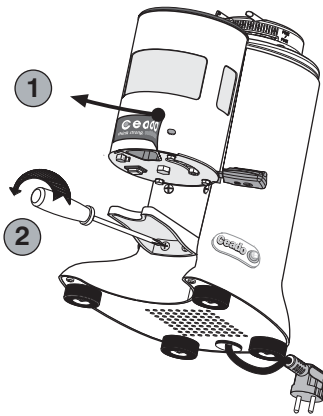

Fig. 13
- 1** Remove the Ceado sticker from the doser (1, Fig. 13) and remove the support fork, undoing the retaining screws (2, Fig. 13). Keep these screws in a safe place.